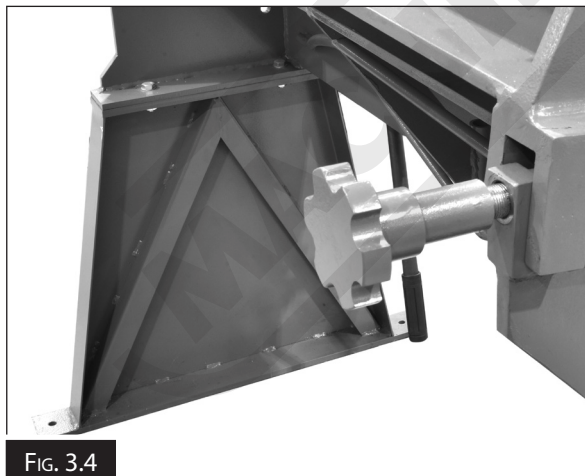

FIG. 3.4
2. With the main frame suspended attach the two side support legs with M10 x 40mm, M10 lock washer and M10 nut. (Fig. 3.4)